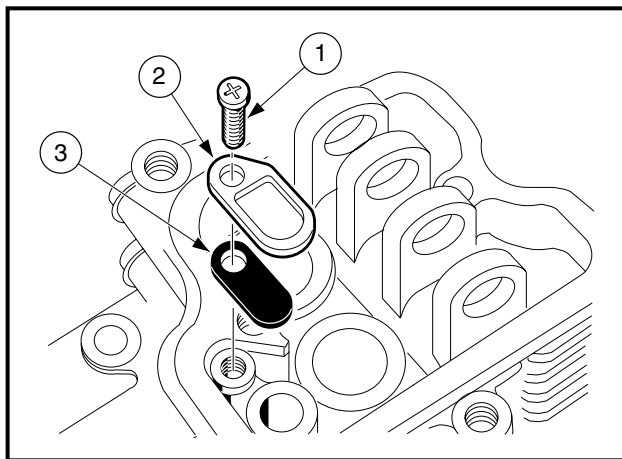

Figure 13-16 Reed Valve
1. Unscrew the mounting screw (1) and remove the back plate (2) and reed valve (3) (Figure 13-16, Page 13-12). For installation, see **Breather Valve Installation** on page 13-20